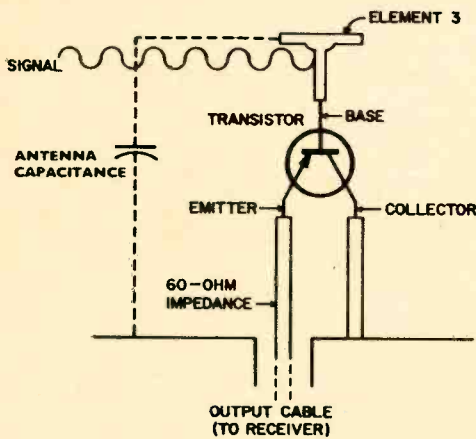

FIG. 3—SIA ANTENNA
The SIA (Fig. 3) uses the transistor (or several transistors) in an attempt to solve these problems. A number of configurations are possible. Although Meinke's description of their operation is obscure, the effect may be thought of as amplifying the meager amount of capacitance or inductance that exists in the antenna's vastly shortened elements (rather than the current, as in the electronic antenna designs).
In Fig. 3, the two elements at the bottom are connected to the output cable—the emitter element to the hot lead and the collector element to the ground lead. The capacitance between element 3 and the antenna's ground is indicated by the dotted line. As the transistor base is driven by signal currents the transistor amplifies the current flowing from collector to emitter. But the result is a multiplication of the effective antenna capacitance, reducing resonant fre-
1) **Audio Oscillator.** As you can see in Fig. 3 it's just a short step from the basic board set up to the first operating circuit. If you're using new resistors and capacitors, don't cut the leads. Just bend the last 1/4-in. of wire so it slips into the clip. Wherever you have to make a connection (say, between a transistor's emitter lead and the positive bus) use short lengths of hookup wire.